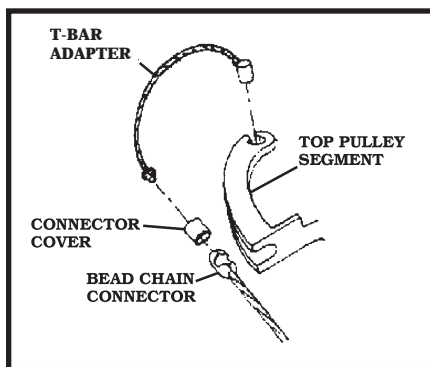

Figure 11
3. Attach a **BEAD CHAIN CONNECTOR** onto the **CRUISE CABLE**. **Figure 11**